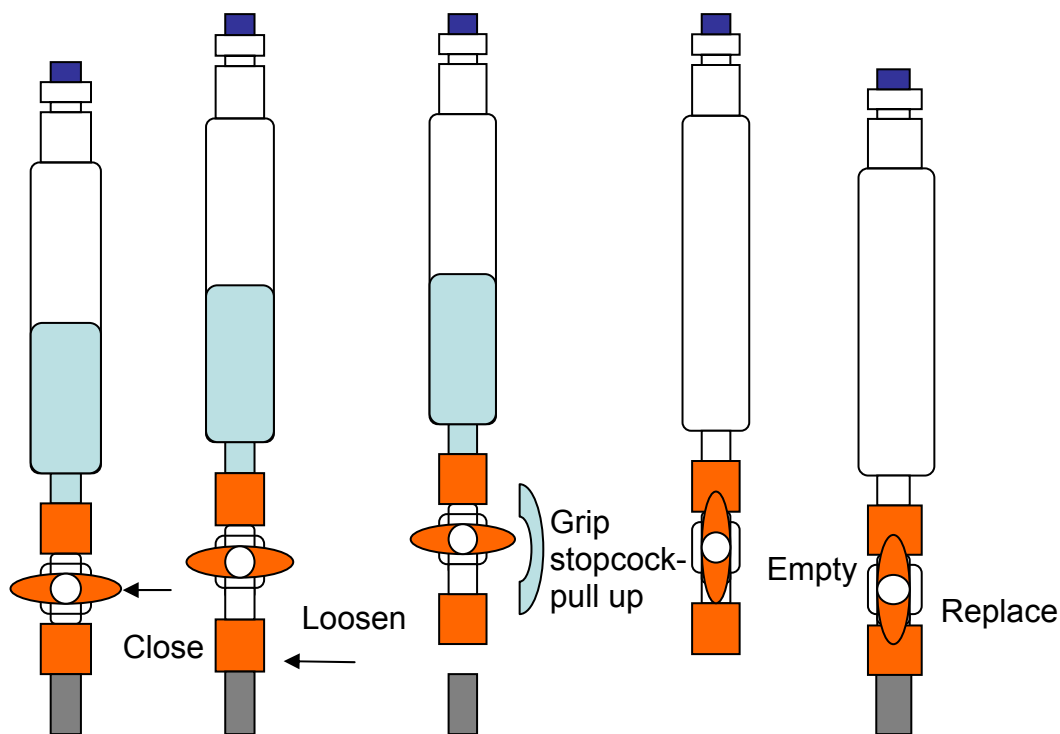

Figure 5.2- Emptying Solvent Reservoirs
- step 1* To discard old solvent in the reservoir bottles, one of two methods can be used: remove the bottle and pour out the old solvent, or purge the old solvent through to waste (Figure 5-2).